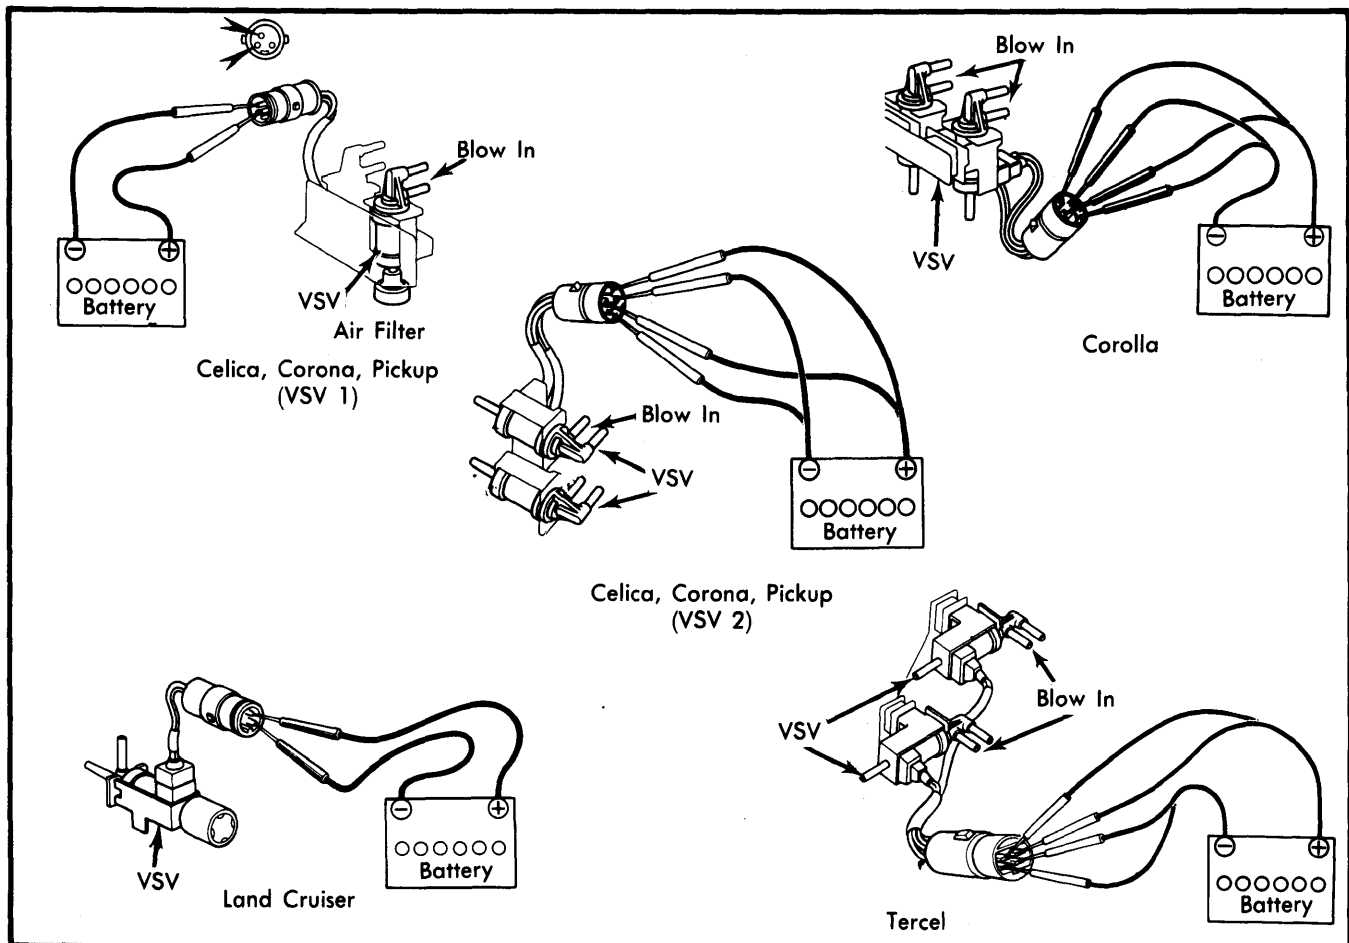

Fig. 6 Vacuum Switching Valve Test Connections
1) Connect battery to VSV terminals as shown in Fig. 6. Blow into lower port of VSV — air should come out top port. Disconnect battery and blow into lower port — air should come out filter at bottom of VSV.